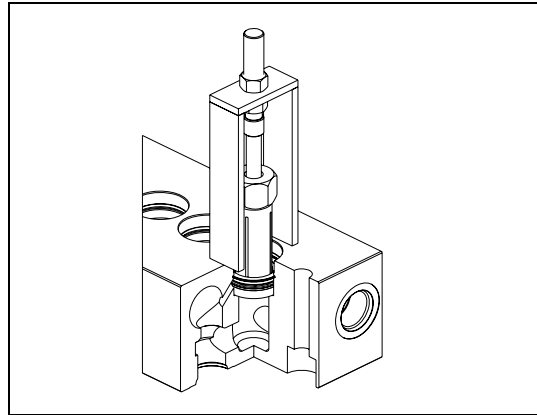

Fig. 11: Weep Ring Extraction
With a flat screw driver remove the low-pressure seal (40). Manually remove the low-pressure seal spacer (39). With the snap ring pliers remove the snap ring (38). Using the weep ring extracting tool, remove the weep ring (37) as shown in Fig. 11.